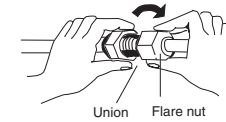

Fig. 5-5
- (3) For proper connection, align the union tube and flare tube straight with each other, then screw in the flare nut tightly at first to obtain a smooth match. (Fig. 5-5)